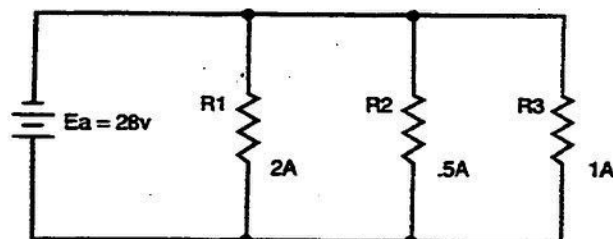

Figure 2-26. Parallel DC circuit (individual branch resistance).
Now let us discuss a little more difficult circuit that has more than two unequal resistors in parallel. Using the circuit in figure 2-26, let us solve for individual branch resistances. By Kirchhoff's law, we know that the voltage drop across each resistor is equal to the applied voltage. By using Ohm's law, the resistance of each branch can be calculated as follows:
**Calculating power.** Using the circuit in figure 2-26, let us determine the power dissipated by the circuit. When we are given the voltage and the individual branch currents, the power formula can be used in this form:  $P = IE$ . The power dissipated by each resistor is equal to the current flowing through it times the voltage drop across it. Thus, the power dissipated by the three resistors is as follows:
The total power  $P_t$  dissipated by any circuit is always equal to the sum of the power dissipated by the individual resistors. Thus,  $P_t$  for the circuit shown in figure 2-26 is 98 watts.